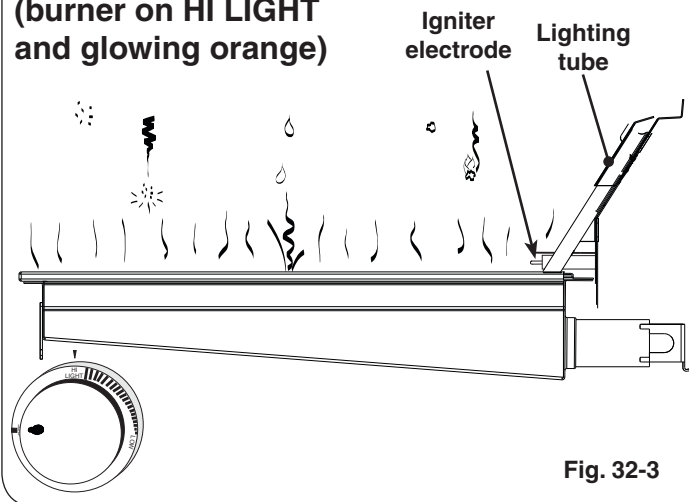

Fig. 32-3
- **DO NOT place food on the cooking grid until the IR burner glows orange (Fig. 32-3).** Drippings are heated and evaporate instead of sticking to and impairing burner function.